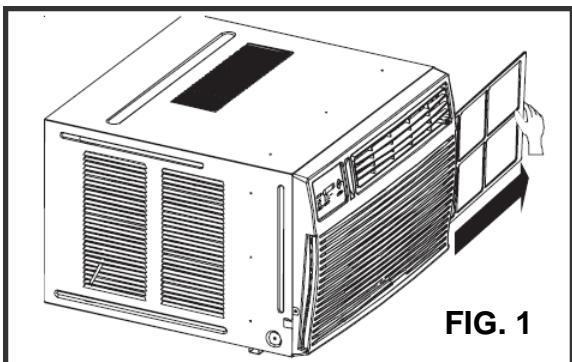

FIG. 1
1. Pull down the front panel and remove the filter (FIG. 1 below)